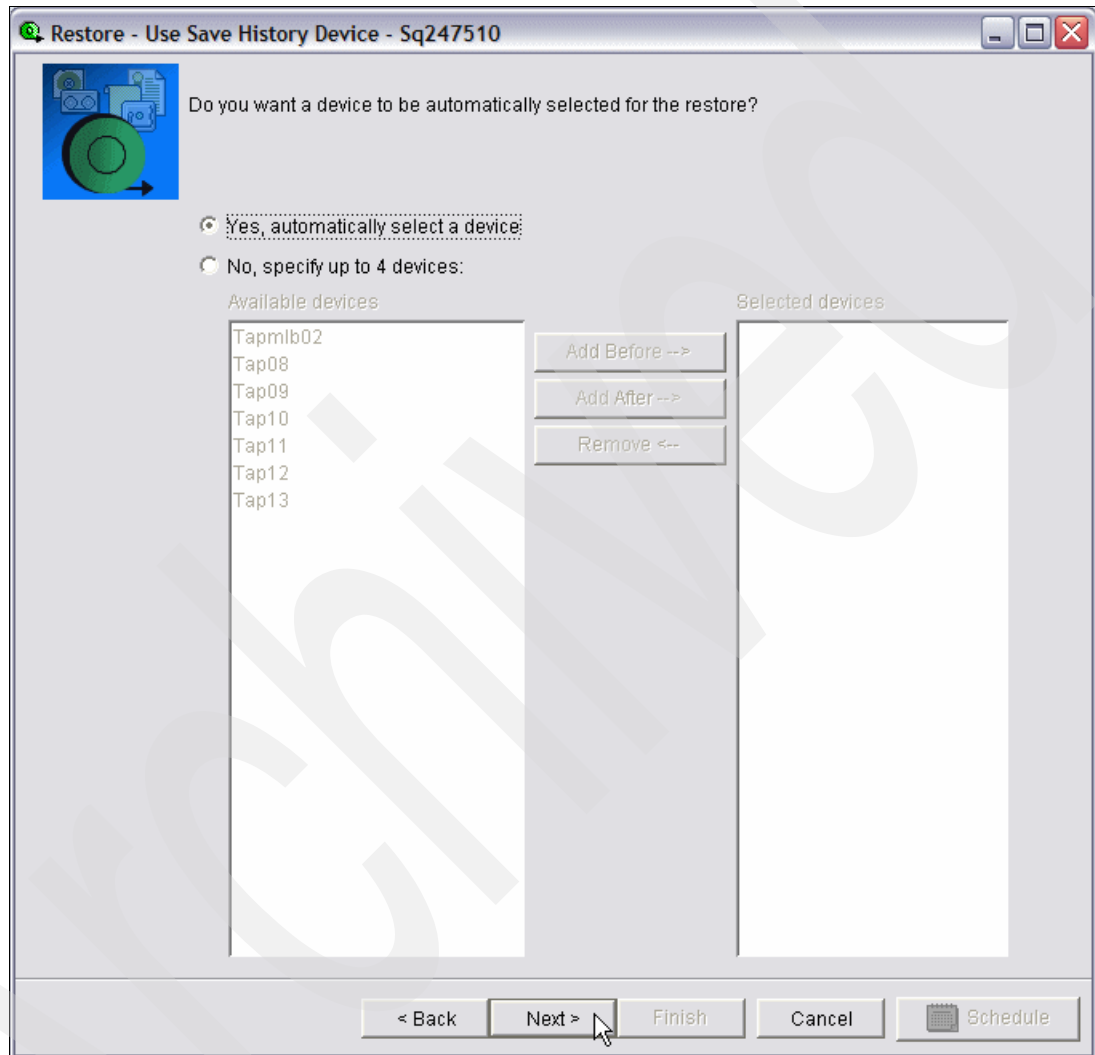

Figure 6-103 Restore - Use Save History Device
9. This opens the Use Save History Device window (Figure 6-103). Review the choices available to you. You can select a tape device that contains your restore media. This can be a tape library or a tape device. Save history remembers that we saved to our virtual tape library, therefore we specify **Yes, automatically select a device**. The tape library can select which tape drive it can use.